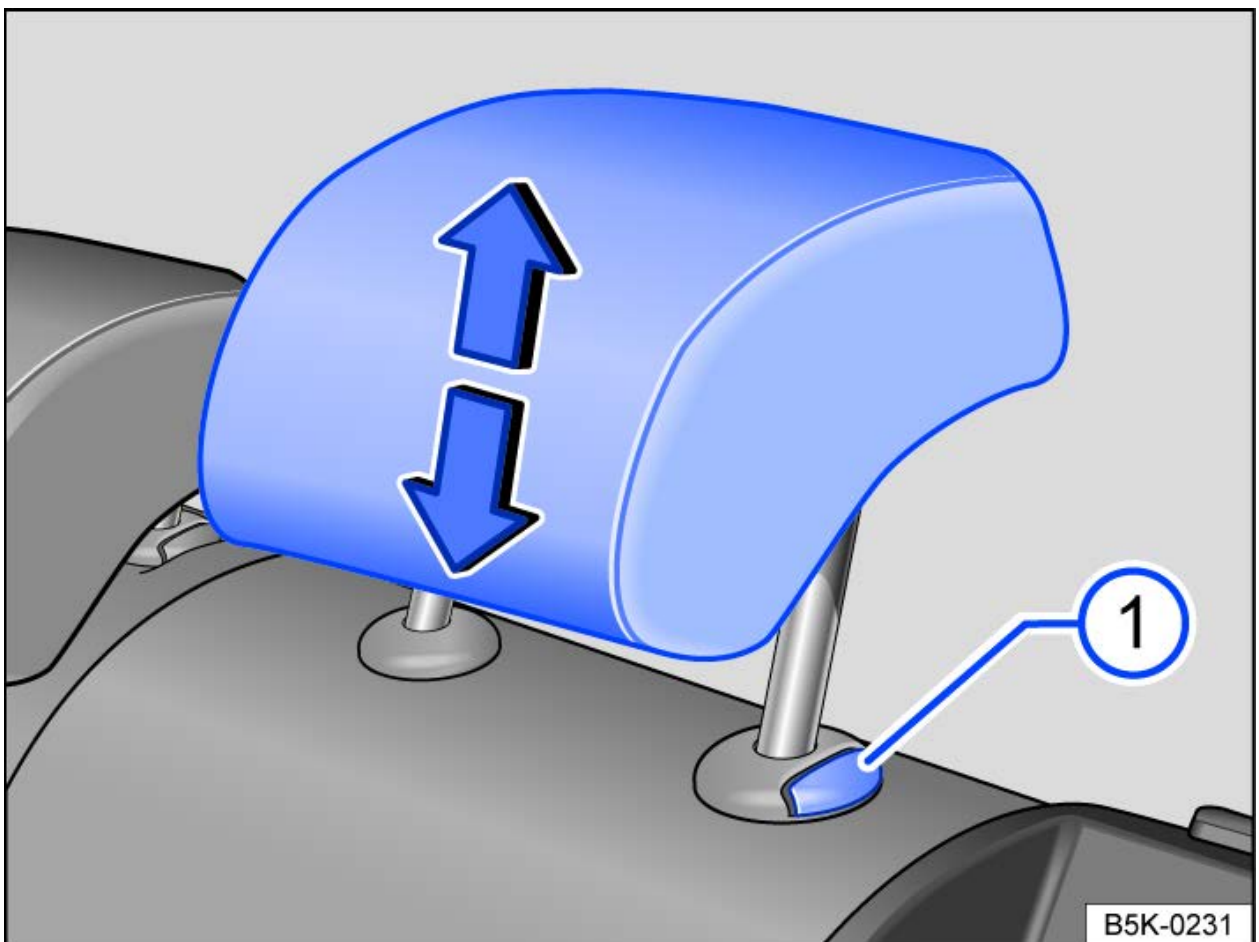

Fig. 2 Rear head restraint: adjusting.
—If necessary, slide the head restraint upward or downward in the direction of the arrow and when pressing the → fig. 1 (1) or → fig. 2 (1) button (→ Head restraints, Introduction/general information). The head restraint must lock securely into place.